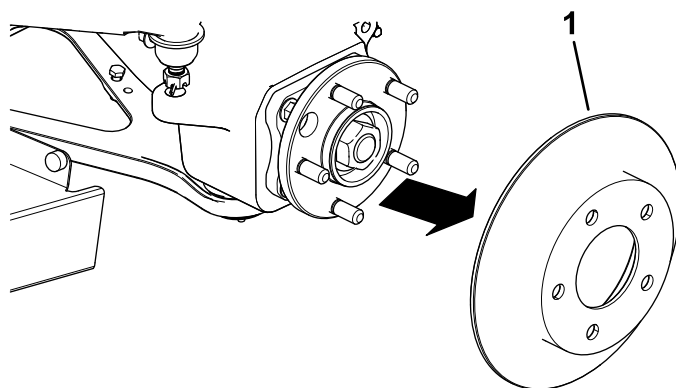

**Figure 5**
5. Remove the front and rear brake line from the master cylinder (Figure 5).
3. Install the front and rear brake line to the master cylinder (Figure 5).